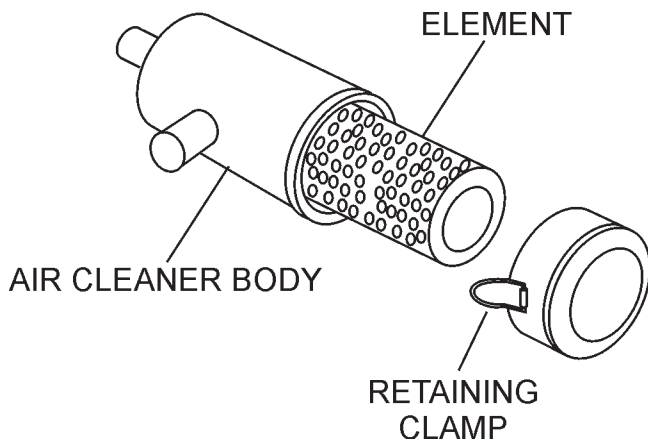

Figure 15. Air Cleaner Components
1. Release the air cleaner retaining clamps (Figure 15) and remove the air cleaner element.